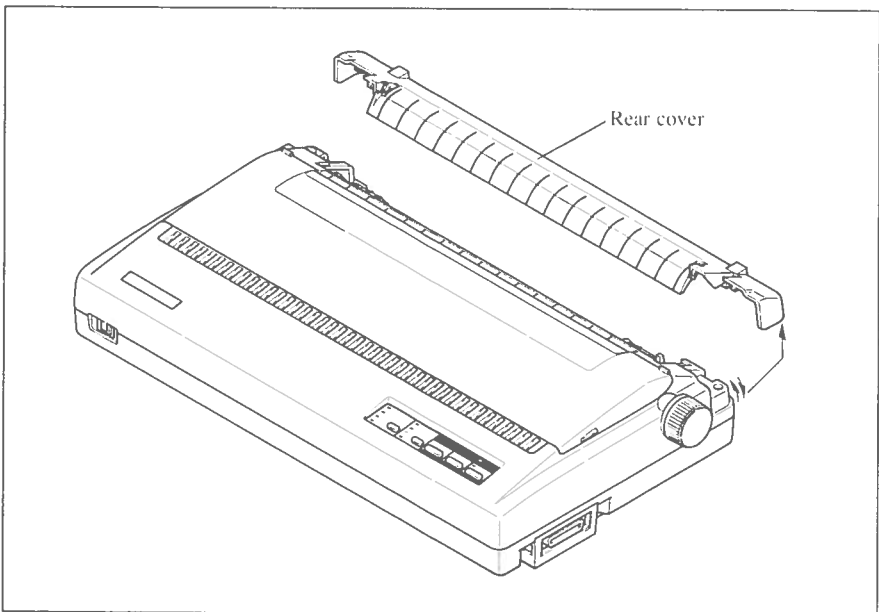

Figure 1-11. Opening the rear cover
5. Remove the rear cover. Grip it by its rear edge and lift upwards and backwards as in Figure 1-11.